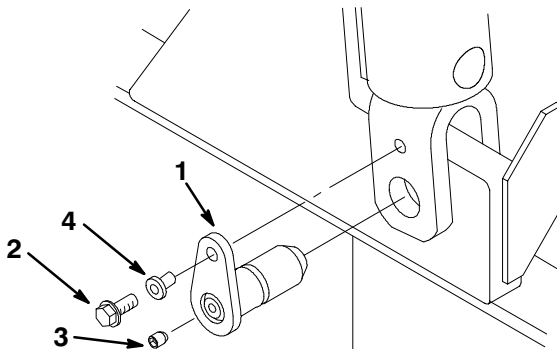

Figure 2
4. Install the new pivot pin using the screw and spacer (Fig. 2).
8. Remove the grease fitting and replace it with the hex set-screw (Fig. 2).